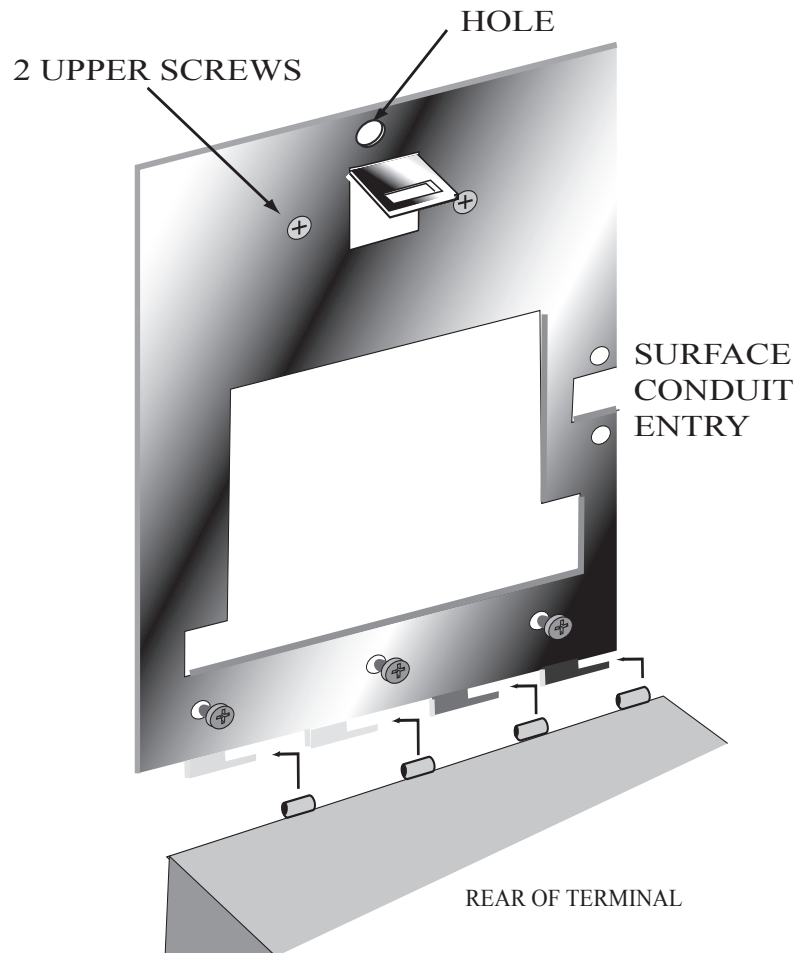

Figure 4-2: Attaching the HandReader to the Wall Plate
2. Align the sleeves of the back plate with the pins of the wall plate and slide the HandReader to the left as shown in figure 4-2.